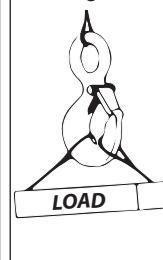

Figure 3
- When placing two (2) sling legs in hook, make sure the angle between the legs is less than 90° and if the hook or load is tilted, nothing bears against the bottom of this latch (See Figures 3 & 4).
- Always make sure the hook supports the load. (See Figure 3). The latch must never support the load (See Figure 4).